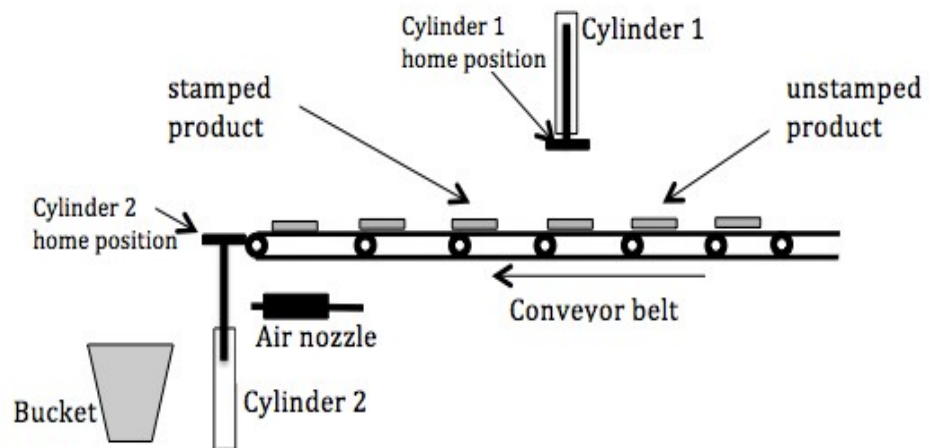

Figure 2
[c] Figure 2 shows the proposed diagram of a semi-automated system. Cylinder 1 is a single acting cylinder that is used to stamp the product. Draw a pneumatic circuit with complete symbols that uses hand-triggered valve to activate the cylinder. Upon activation, cylinder 1 extends and then stamps the product and returns after stamping. Based on your proposed circuit, briefly explained how the system works.
- [d] In Figure 2, when the product reaches cylinder 2 home position, the operator triggers a second valve. Cylinder 2 brings the product down from its home position and eventually the air nozzle blows the product into the bucket. Assuming cylinder 2 is a double-acting cylinder; draw a pneumatic circuit with complete symbols that uses a solenoid valve to activate the cylinder. Base on your proposed circuit, briefly explained how the system works.